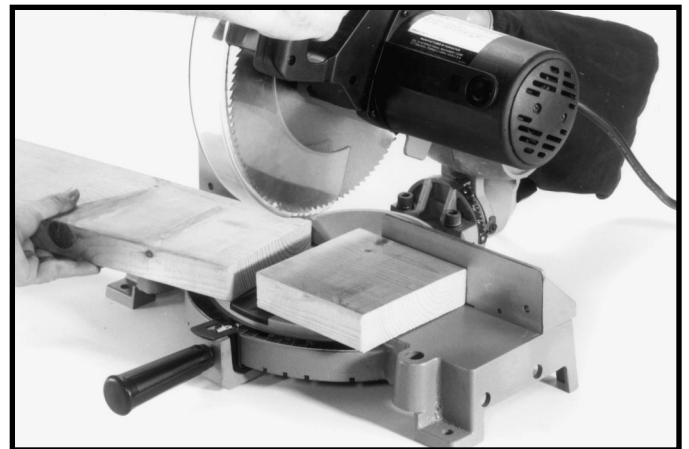

Fig. 32
7. Fig. 32, illustrates the fence in the rear position enabling you to cross-cut a standard 2 x 6 in one pass.